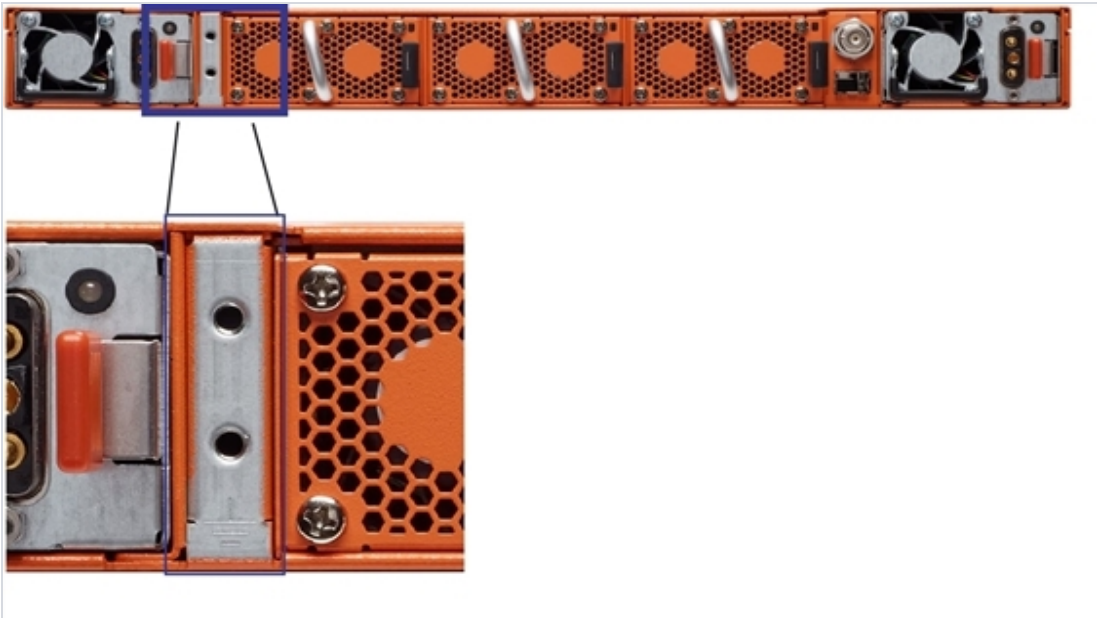

Figure 1: Holes for Ground Screws (DC-Powered GigaVUE-HC1)
1. Locate the grounding holes near the left corner at the rear of the chassis (Figure 1: Holes for Ground Screws \(DC-Powered GigaVUE-HC1\) on page 33 shows the location on a GigaVUE-HC1 node).